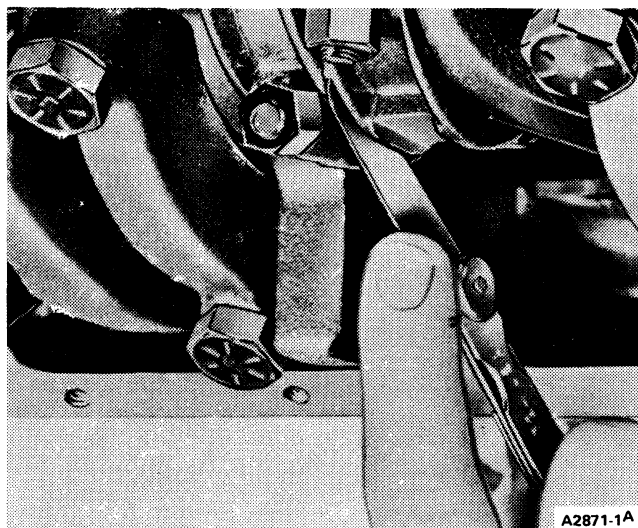

FIG. 42 Checking Connecting Rod Side Clearance
9. After the piston and connecting rod assemblies have been installed, check the side clearance between the connecting rods on each shaft journal (Fig. 42).
24. After the piston and connecting rod assemblies have been installed, check the side clearance between the connecting rods on each connecting rod crankshaft journal (Fig. 42) following Specifications listed at the end of this Part.